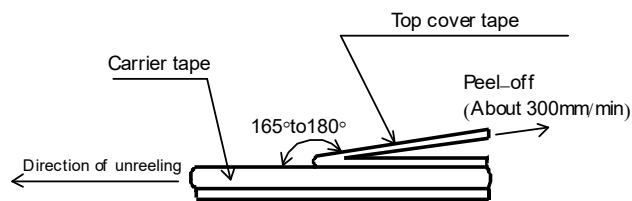
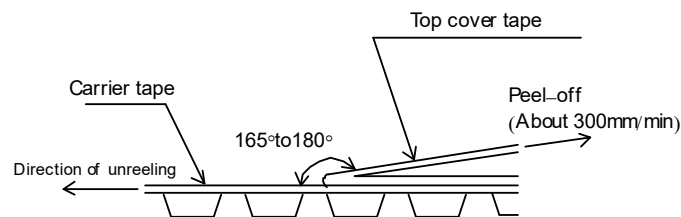

Figure-5
Figure-6
- 5). The peel strength of the top cover tape shall be within 0.1N to 0.5N on the test method as shown in the following RBX16,20,32: Figure-5, RBX35: Figure-6.